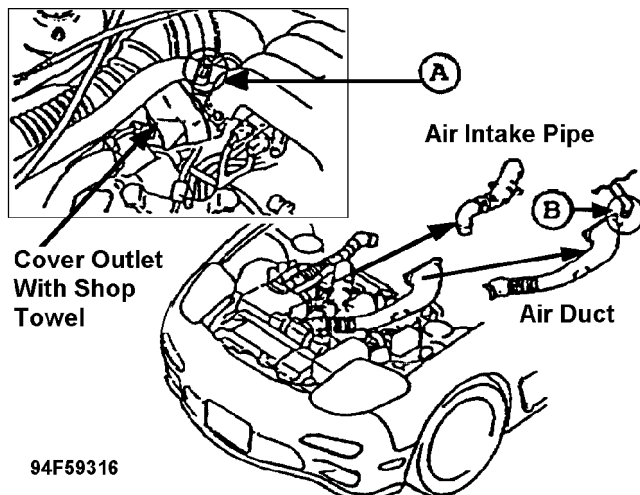

Fig. 34: Disconnecting the Air Pipe & Hose
10. Disconnect the AWS hose and the air duct B at the joint as shown in Fig. 34.